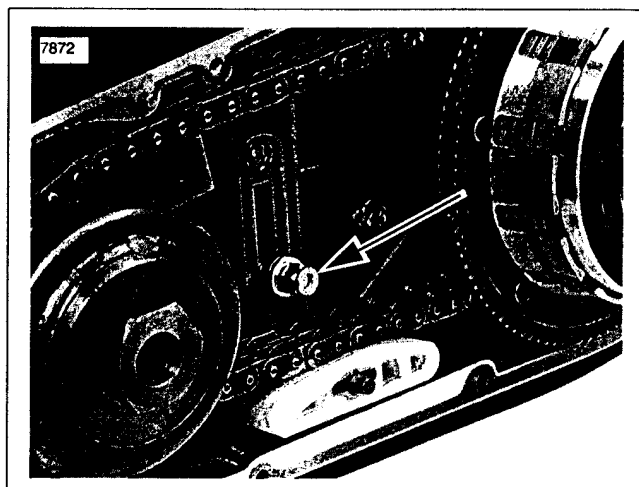

Figure 6-6. Chain Tensioner Top Center Nut
2. See Figure 6-6. Loosen top center nut from chain tensioner.
- See Figure 6-6. Loosely install chain tensioner and top center nut to fasten chain tensioner assembly onto captured bolt inside of primary chaincase. Verify chain tensioner shoe is resting on bottom lip of primary chaincase.